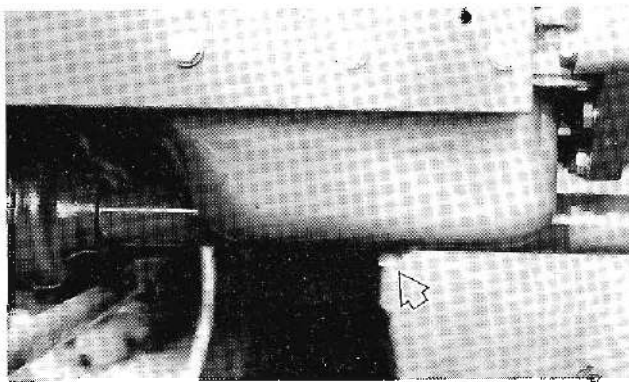

Figure 36 — Engine Oil Drain Plug
1. With the engine off, but at normal operating temperature, drain the engine oil by removing the drain plug, Figure 36. Reinstall the plug after the oil has drained and discard the oil.